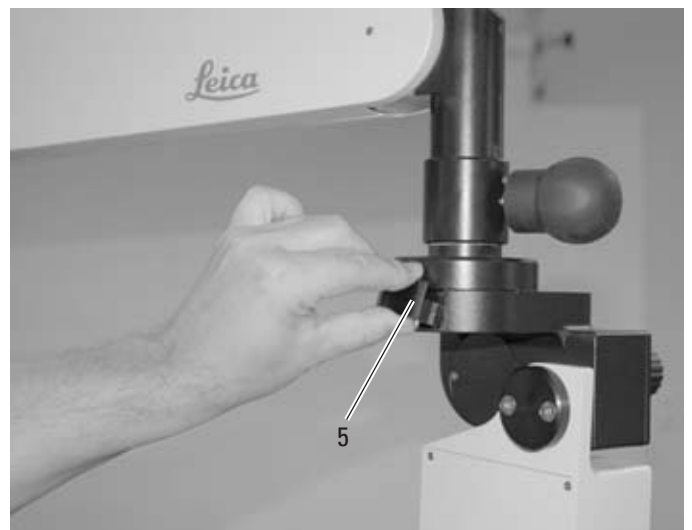

Fig. 4
⇒Slide in the cover (5) (Fig. 4).